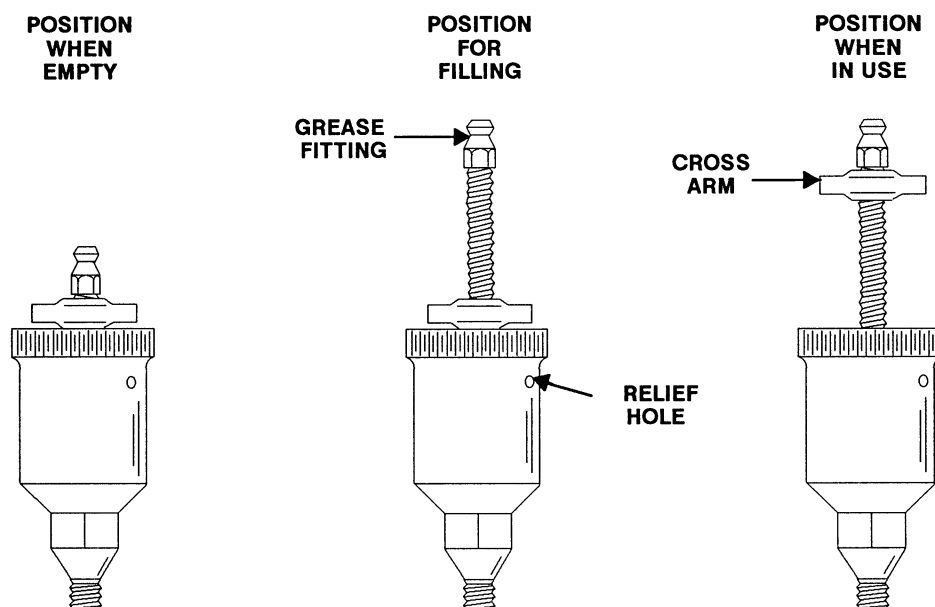

Figure 4. Automatic Lubricating Grease Cup
Before removing the impeller, turn the cross arm on the automatic grease cup (6) clockwise until it rest against the cover (see Figure 4). This will prevent the grease from escaping when the impeller is removed.
Fill the grease cup (6) through the grease fitting with No. 2 lithium base grease until grease escapes from the relief hole. Turn the grease cup arm counter-clockwise until it is at the top of the stem; this will release the spring to apply grease to the seal (see Figure 4).